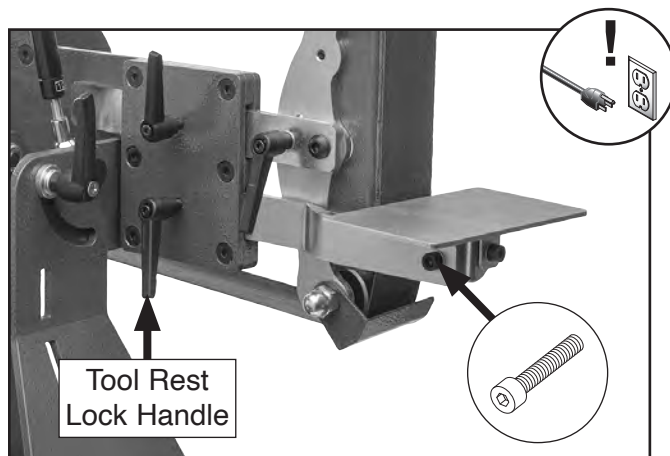

Figure 35. Location of tool rest lock handle and swivel cap screw.
2. Loosen tool rest lock handle (see **Figure 35**), so you can move it as needed during next step.
3. Loosen cap screw shown in **Figure 35**, swivel tool rest to match workpiece angle, then tighten cap screw to secure.